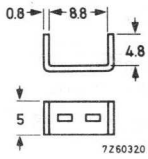

Fig. 5a. Metal mounting bracket
- metal bracket for panel mounting of connectors in series, catalogue number 4332 026 00730, Fig. 5a and metal bracket, catalogue number 4332 026 00720, Fig. 5b.